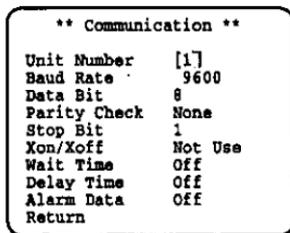

Fig. 30
1. Display the Communication Menu as shown in Fig. 30 by repeating the previous procedures.
1. Display the communication Menu as shown in Fig. 30 by repeating the previous procedures.
(5) Stop Bit Setting
(9) Alarm Data Setting